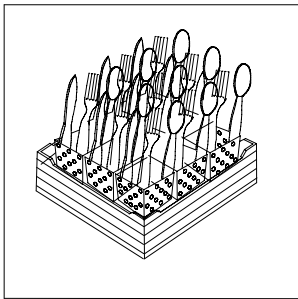

Fig. 10
- Set selector switch (1) to  for drain. (Not shown of FI-72W, it will drain when you pull the overflow tube)
- Depress the Start Button (5) to start the drain pump. Start Button (5) will illuminate. (FI-48W / FI-64W only)
- Wait until the Start Button (5) turns off. (3 minutes)
- Take out scrap basket for cleaning by twisting to the left. (Fig. 10)
- Put cutlery in the cutlery baskets handles down. Mix spoons with knives and forks. (Fig. 10)